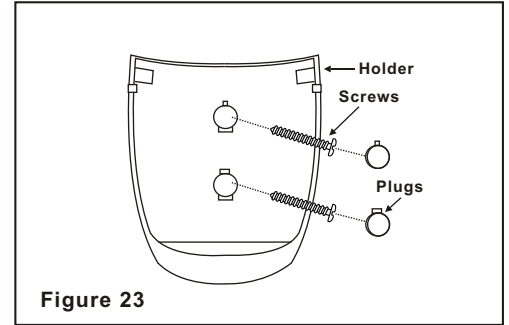

Figure 23
1. Remove the two plugs from the holder. Note that the plugs have unique tabs that allows them to fit only in one hole. (Fig. 23)